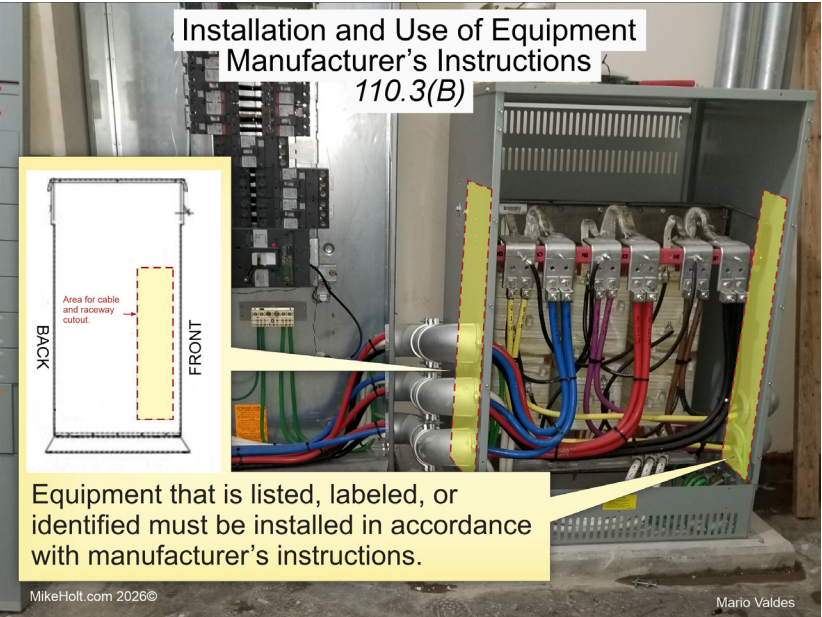

Fig. 1.
(B) Installation and Use. Equipment that is listed, labeled, or identified must be installed in accordance with manufacturer's instructions, as shown in Fig. 1.